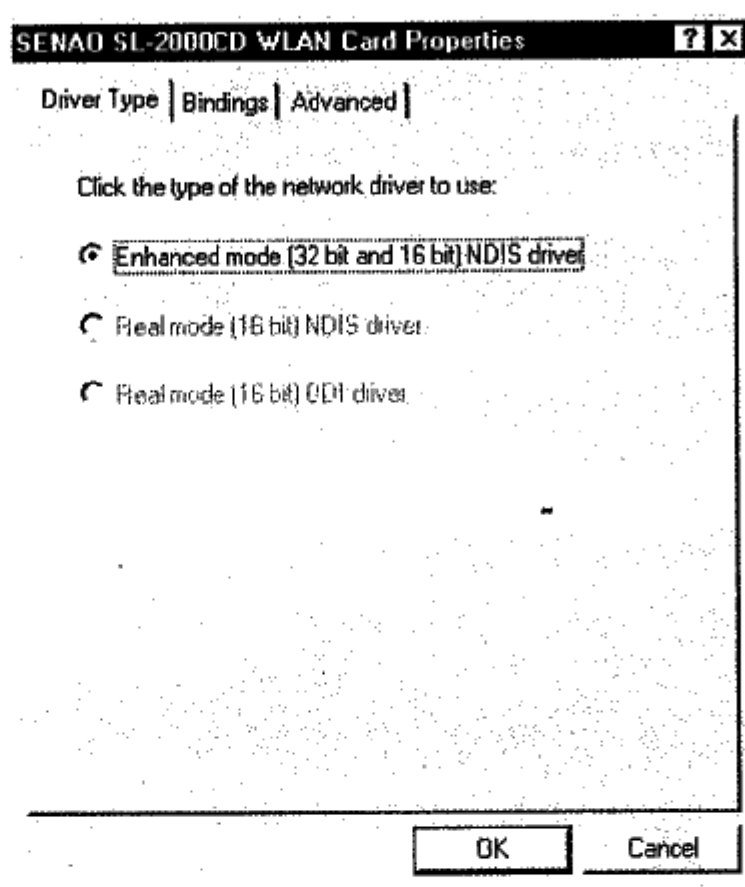

Figure 4-4
4. Select "Configuration" tab and double click "SENAO SL-2000CD WLAN Card" to bring out "SENAO SL-2000CD WLAN Card Properties" dialog box as shown in Figure 4-4.